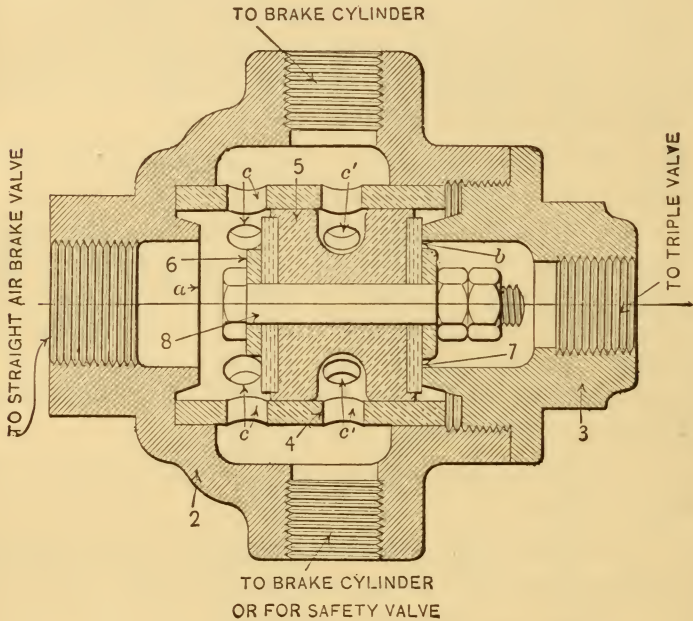

FIG. 63.—DOUBLE CHECK VALVE.
Q. Explain the mechanism of the double check valve (Fig. 63).